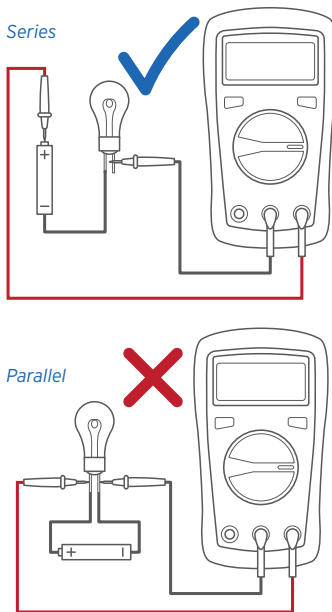

Figure 4.1
- ALWAYS connect the test leads in series. **DO NOT** connect the test leads in parallel with any circuit while taking measurements. Doing so may result in damage to the multimeter or injury to the user. [Figure 4.1]